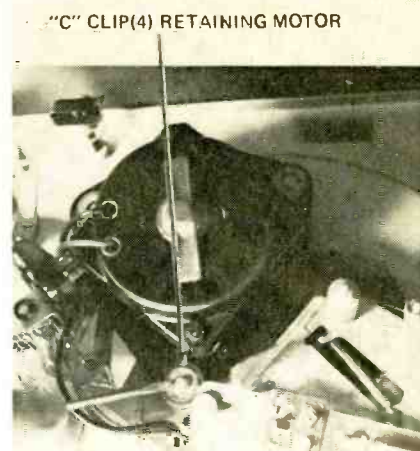

FIG. 6—C CLIPS hold the motor in place. Remove them, then the motor, to get at the upper motor bearings.
Figs. 2 and 3 are closeups of the inner mechanism of the typical record changer. Basically, most problems center around the idler wheel (Fig. 2) and the motor bearings (Figs. 6 and 7).
5. Remove the C clips (Fig. 6) holding the motor to the bottom of the record changer.